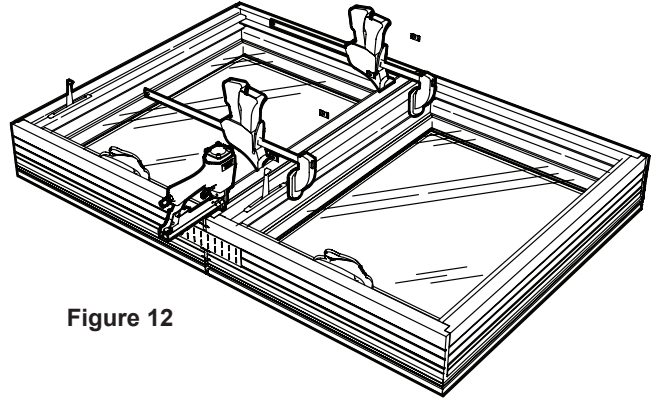

Figure 12
14. Carefully turn the units over so the interior side is up. Clamp the units together on the wood frame so the mull joint is tight. (Figure 12)
15. Fasten the units together with 1" x 1/2" corrugated nails. Three of the nails spaced 2" apart must be placed on both ends starting approximately 2" from the edge of the frame. Space the remaining nails 5-8" apart. 1" x 1-1/4" 16 ga galvanized crown staples may be substituted for the corrugated nails. (Figure 12)